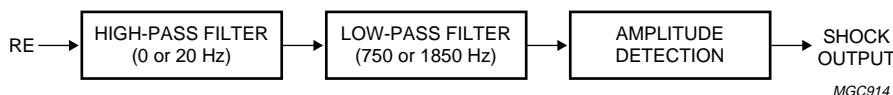

Fig.21 Block diagram of radial shock detector.
The shock detector (see Fig.21) can be switched on during normal track following, and detects within an adjustable frequency whether disturbances in the radial spot position relative to the track exceed an adjustable level (controlled by `shock_level`). Every time the radial tracking error (RE) exceeds this level the radial control bandwidth is switched to twice its original bandwidth and the loop gain is increased by a factor of 4.